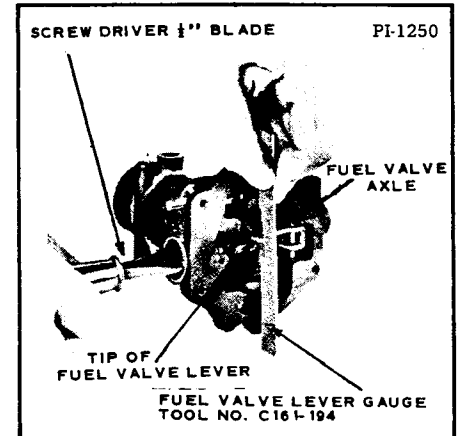

Fig. 242 Adjusting Fuel Valve Lever
8. Place the special fuel valve lever adjusting gauge on the machined surface of the casting and against the nylon roller (Figure 242). Adjust the fuel valve lever to step 2 on the gauge by turning the inlet orifice in or out. Secure it in position by tightening the 8-32 set screw (Figure 243).